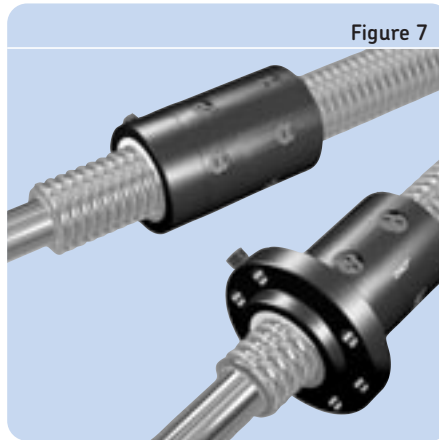

Figure 7
- Ground ball screws for more rigidity and precision (→ **figure 7**)